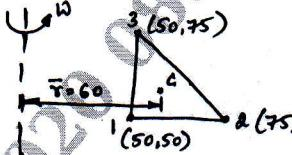

Fig.Q9(b)
b. For the element of an axisymmetric body rotating with a constant angular velocity  $\omega = 1000 \text{ rev/min}$  as shown in Fig.Q9(b), determine the body force vector. Include the weight of the material, where the specific density is  $7850 \text{ kg/m}^3$ .